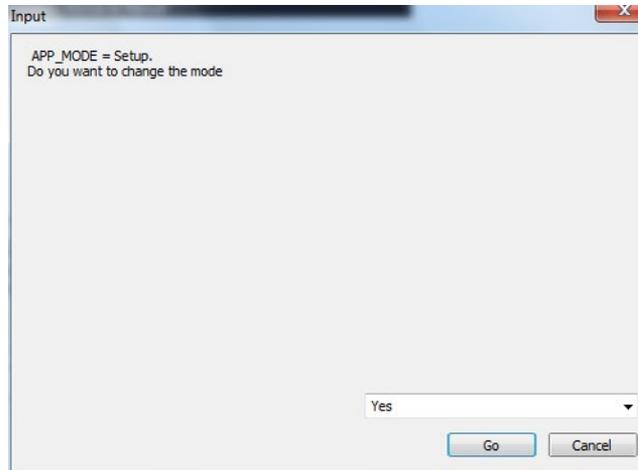
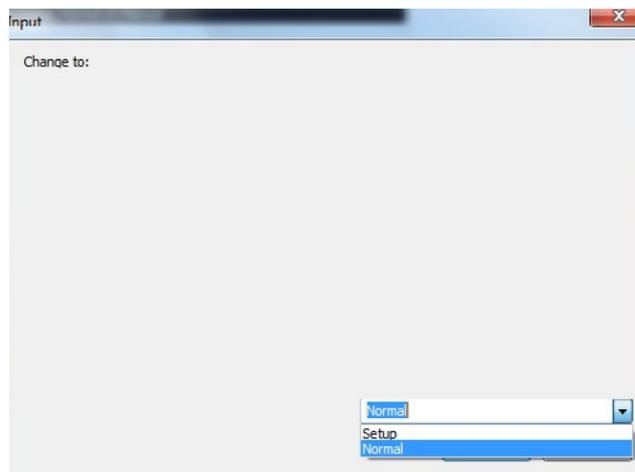

Figure 105 - Initial Mode
Figure 106 - Mode Selection
2. Ensure Yes () is shown in Figure 105, then click **Go** and Figure 106 appears.